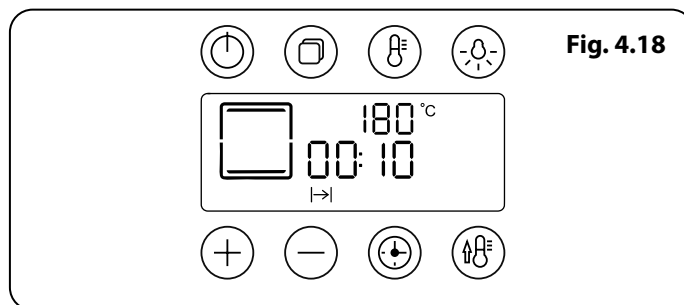
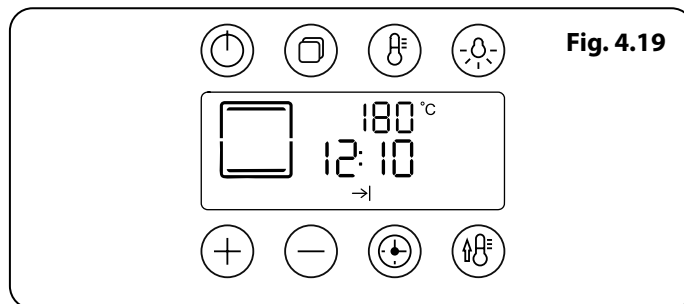

Fig. 4.18
Fig. 4.19
4. The oven will enter Standby Mode after 3 seconds, the display will show the 'cook period' (**Fig. 4.18**) and the 'stop time' (**Fig. 4.19**). Changing the cooking function will clear the selection.
Note: **Fig. 4.18** and **Fig. 4.19** show conventional heat function for illustration. All other modes are available.